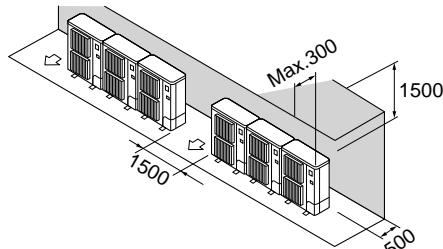

Fig. 2-10
② Obstacles at rear and above only (Fig. 2-10)